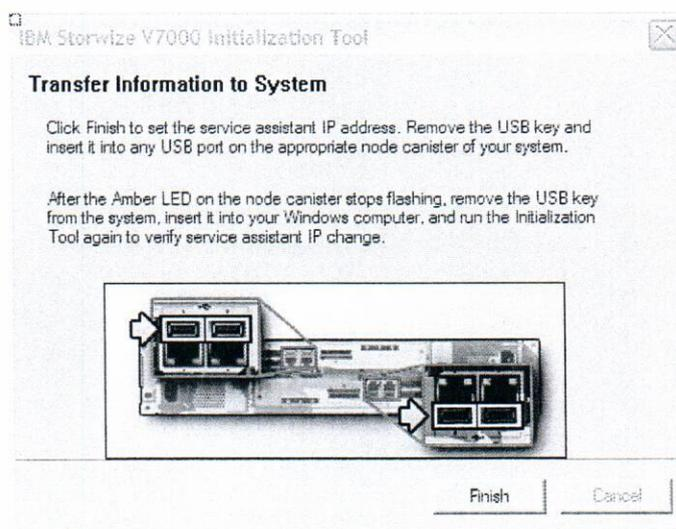

Figure 7 Transfer information to system window
- 8) The Transfer information to system screen will appear (Figure 7)